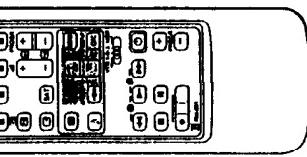

Fig. 36.
- 2 Using  $\text{o} + \text{s} -$  select "Timer" and press OK. The TIMER menu appears. (See Fig. 36.)